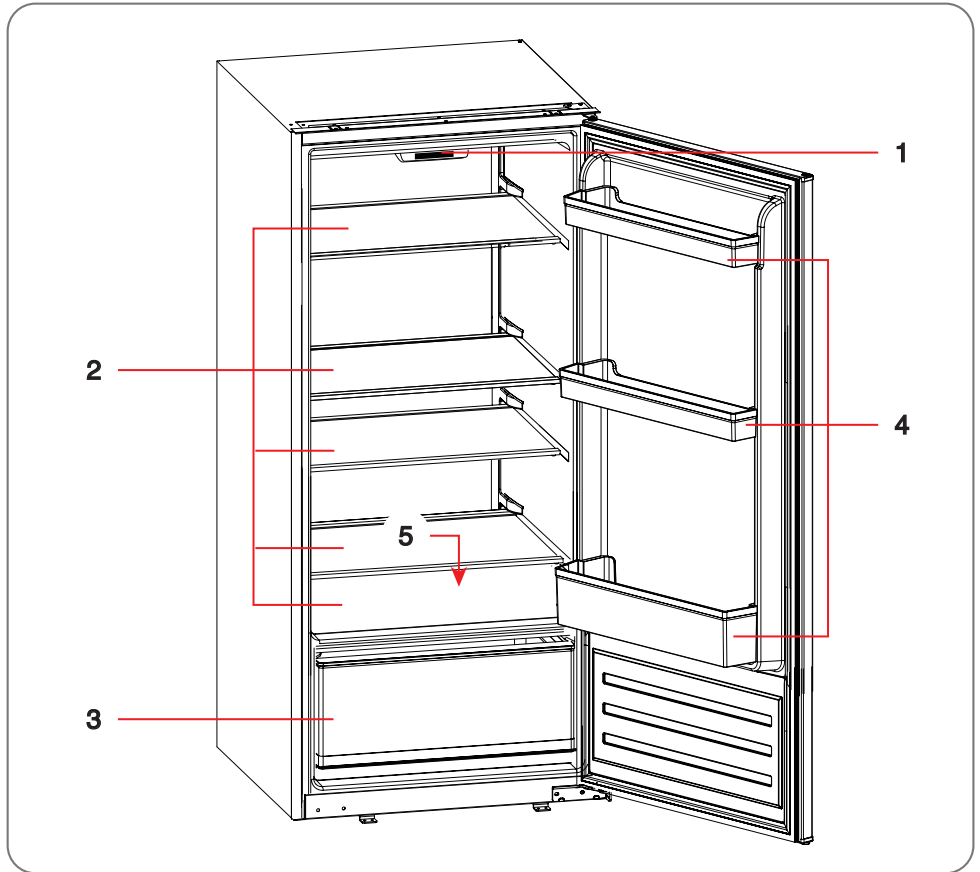

Fig. 4.1
- The temperature control panel is inside the appliance, at the centre (1, Fig.4.1).
- To turn on the appliance, press and hold the “Power” button (A) for 3 seconds; the indicator light will come on when the power is on.
- Press the “Adjust” button (B) to adjust the temperature inside the compartment, selecting a setting from “1” to “7” (C).
- To turn off the appliance, press and hold the “Power” button (A) for 3 seconds. The indicator light will turn off, and then the refrigerator and interior lighting will be deactivated.